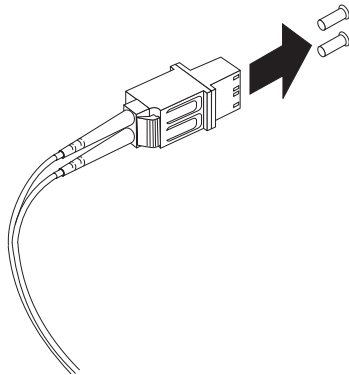

Figure 37. Removing the LC-SC cable adapter protective caps
3. Remove the two protective caps from the LC connector end of the LC-SC cable, as shown in Figure 37. Save the protective caps for future use.